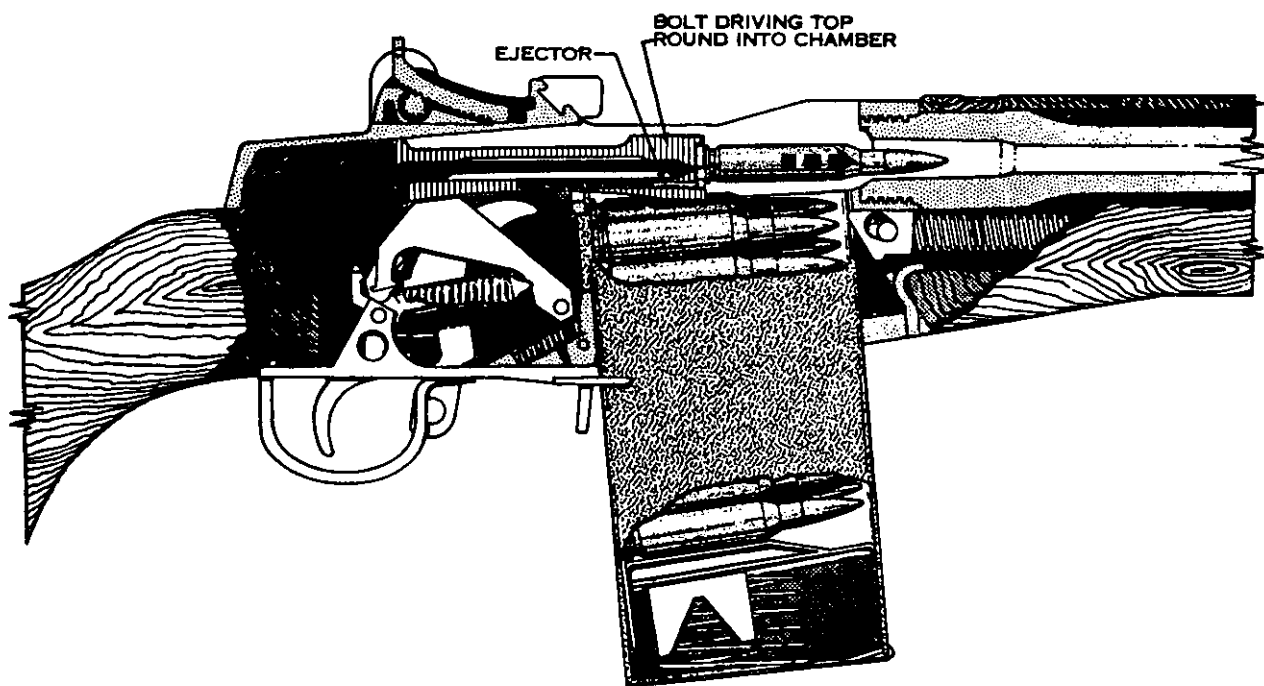

Figure 31. Chambering.
- (2) *Chambering.* Chambering occurs when a round is moved into the chamber. This takes place as the bolt goes forward under pressure of the expanding operating rod spring, stripping the top round from the magazine and driving it forward into the chamber (fig. 31). Chambering is complete when the extractor snaps into the extracting groove on the cartridge and the ejector is forced into the face of the bolt.